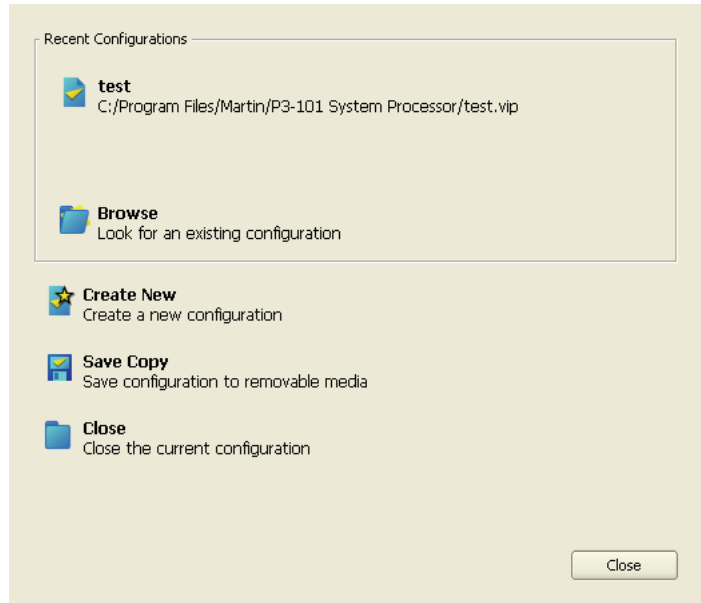

Figure 4: File Operations window
See Figure 4. When you start the P3-100 (or at any time if you open the **File** menu) you can either:
- Select a configuration file from the list at the top of the **Recent Configurations** window (the most recently used file is called **test** in Figure 4).